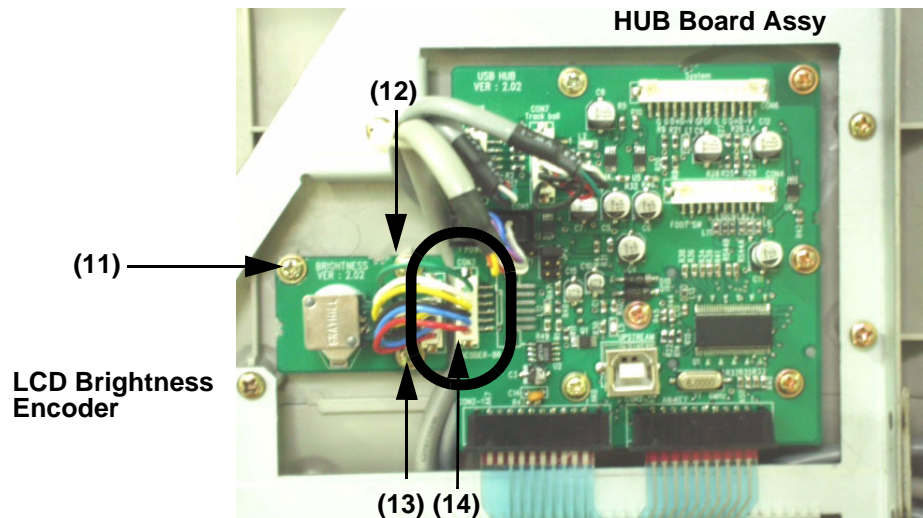

Figure 8-47    Removing LCD Encoder Assy
4.) Disconnect one connector (14) from the HUB Board. and Unscrew three (3) screws (11-13) from the LCD Brightness Encoder Assy. Refer to Figure 8-47.